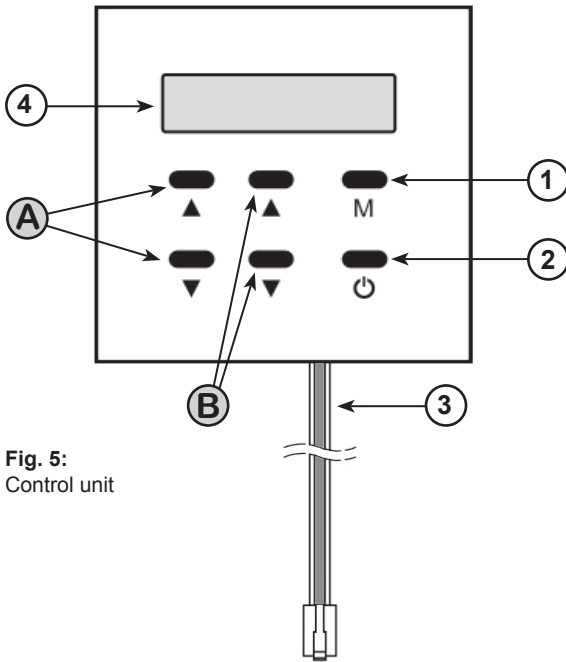

Fig. 5: Control unit
9.2.2. Menu functions (see Fig. 5)